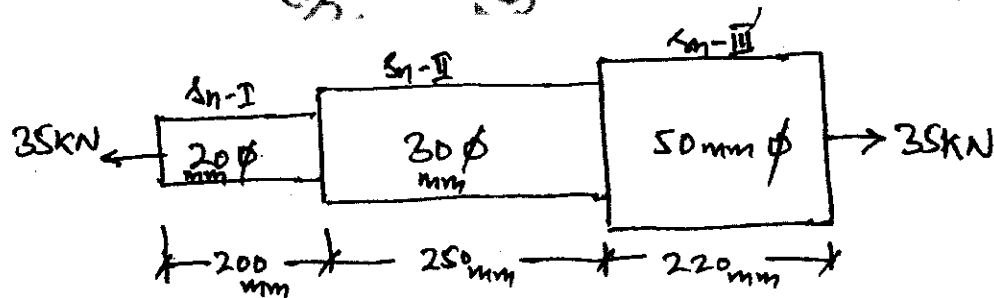

Fig. Q2 (b)
- b. An axial pull of 35 kN is acting on a bar is shown in Fig. Q2 (b) below. If Youngs modulus is  $2.1 \times 10^5 \text{ N/mm}^2$ . Determine i) Stresses in each section ii) Total extension of the bar (14 Marks)